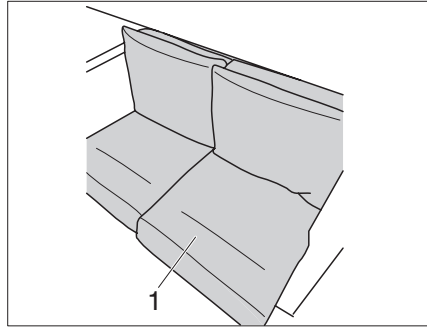

Fig. 124 Put cushion on top
- Put the cushion with reinforcement (Fig. 124,1) on top on the right-hand side.
The seat cushion (Fig. 124,1) has a wooden panel integrated into its underside.